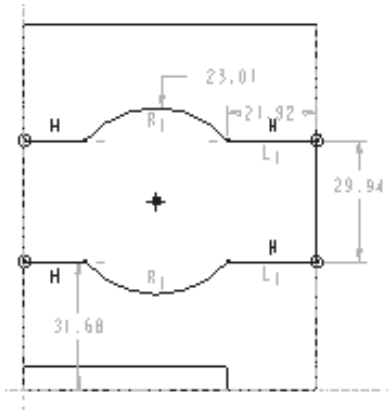

Figure B-10 Sketch after trimming the circle
5. Using the left mouse button, select the part of the circle that has turned to magenta. This portion of the circle gets erased. Similarly, erase the left part of the circle that is not required. The sketch after trimming the circle is shown in Figure B-10.